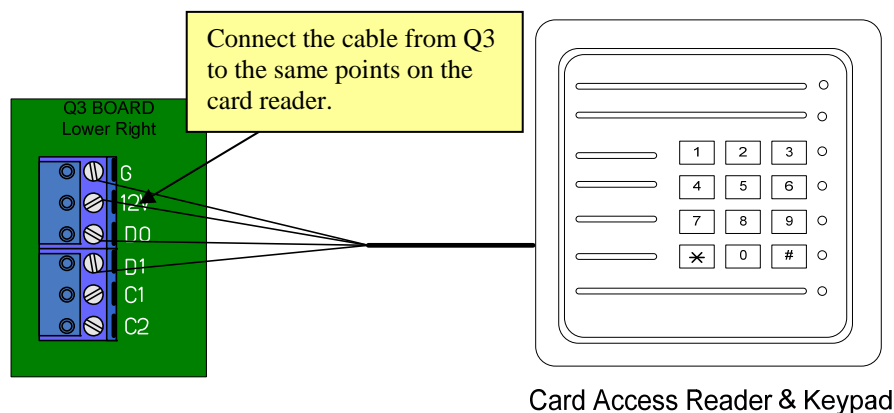

Figure 5: Card Reader Connection Terminal on Q3 Board
Step 4: Connect D0, D1, GND & 12 from the Q3 to the same points on each card reader using 4 conductor 20 AWG shield cable (Figure 5).